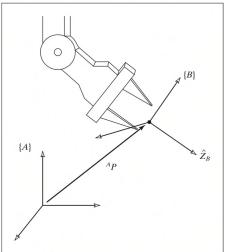

FIGURE 2.2: Locating an object in position and orientation.
① The situation of [a position and an orientation] pair arises so often in Robotics that we define an entity called Frame,
- Figure 2.2: 1 vector locates the fingertip position, and 3 more describe its orientation.
② A frame is a coordinate system where, in addition to the orientation, we give a position vector which locates its origin relative to some other embedding frame.
- Figure 2.2: Frame  $\{B\}$  is described by  ${}^A_B R$  and  ${}^A P_{BORG}$  (the vector that locates the origin of the frame  $\{B\}$ )  $\Rightarrow \{B\} = \{{}^A_B R, {}^A P_{BORG}\}$ .